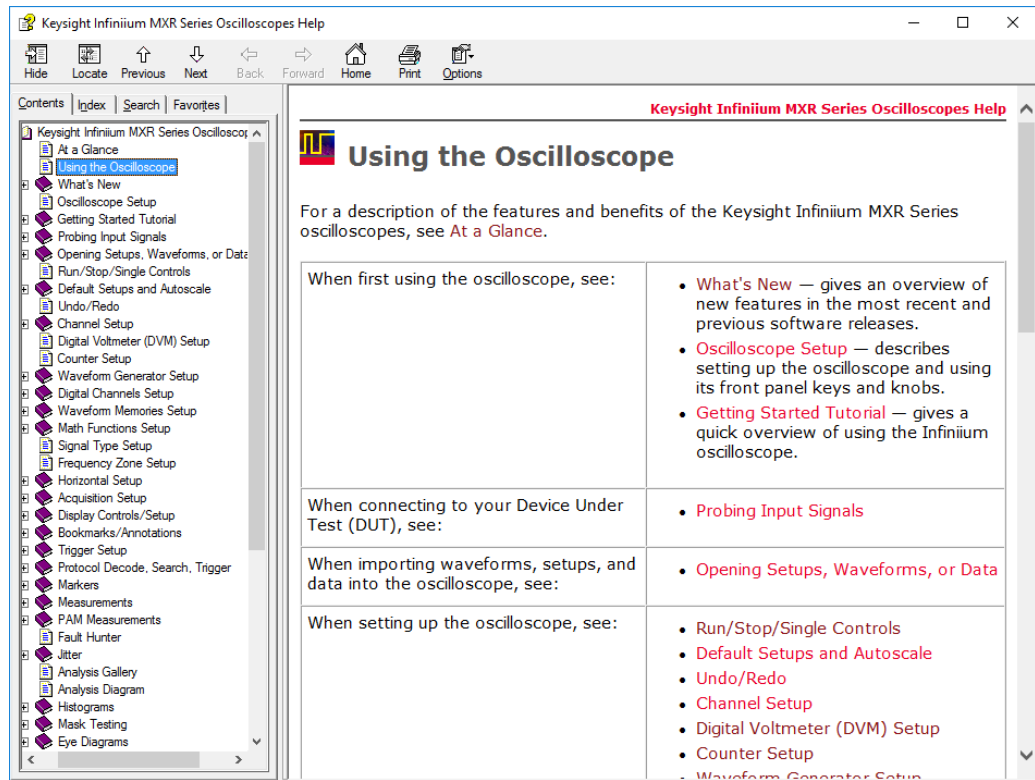

Figure 25 Online Help home page
- Choose **Help > Contents...** from the main menu to open the online help home page (Figure 25).